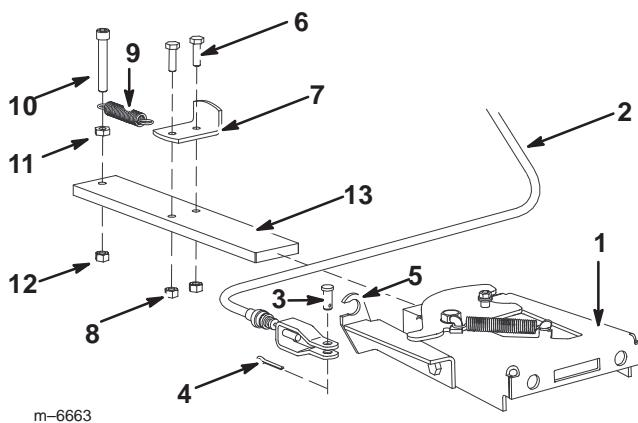

Figure 9
2. Remove the cotter and clevis pin from the brake cable (Fig 9).
3. Remove the cable from the bracket hook as shown in Figure 9.
1. Remove the hex socket head bolt, jam nut, and locknut as shown in Figure 9.
1. Attach the brake cable to the assembly by installing the cotter and clevis pins and by hooking the line into the bracket at the clip ring as shown in Figure 9.
2. Install a brake assembly into position using the fasteners removed previously (Fig. 9).